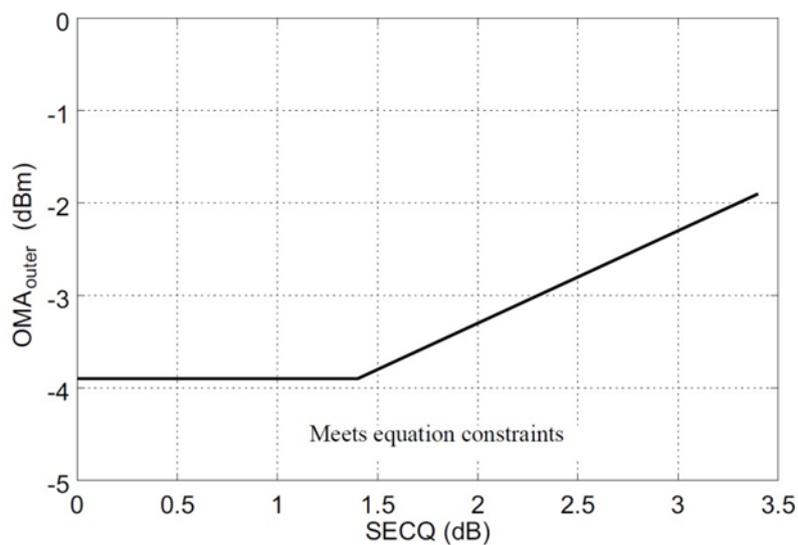

Figure 5 Illustration of Receiver Sensitivity Mask for 800G-DR8
- 7. Receiver sensitivity (OMA_{outer}) is informative and is defined for a transmitter with a value of SECQ up to 3.4dB. Receiver sensitivity should meet Equation (1), which is illustrated in Figure 5.